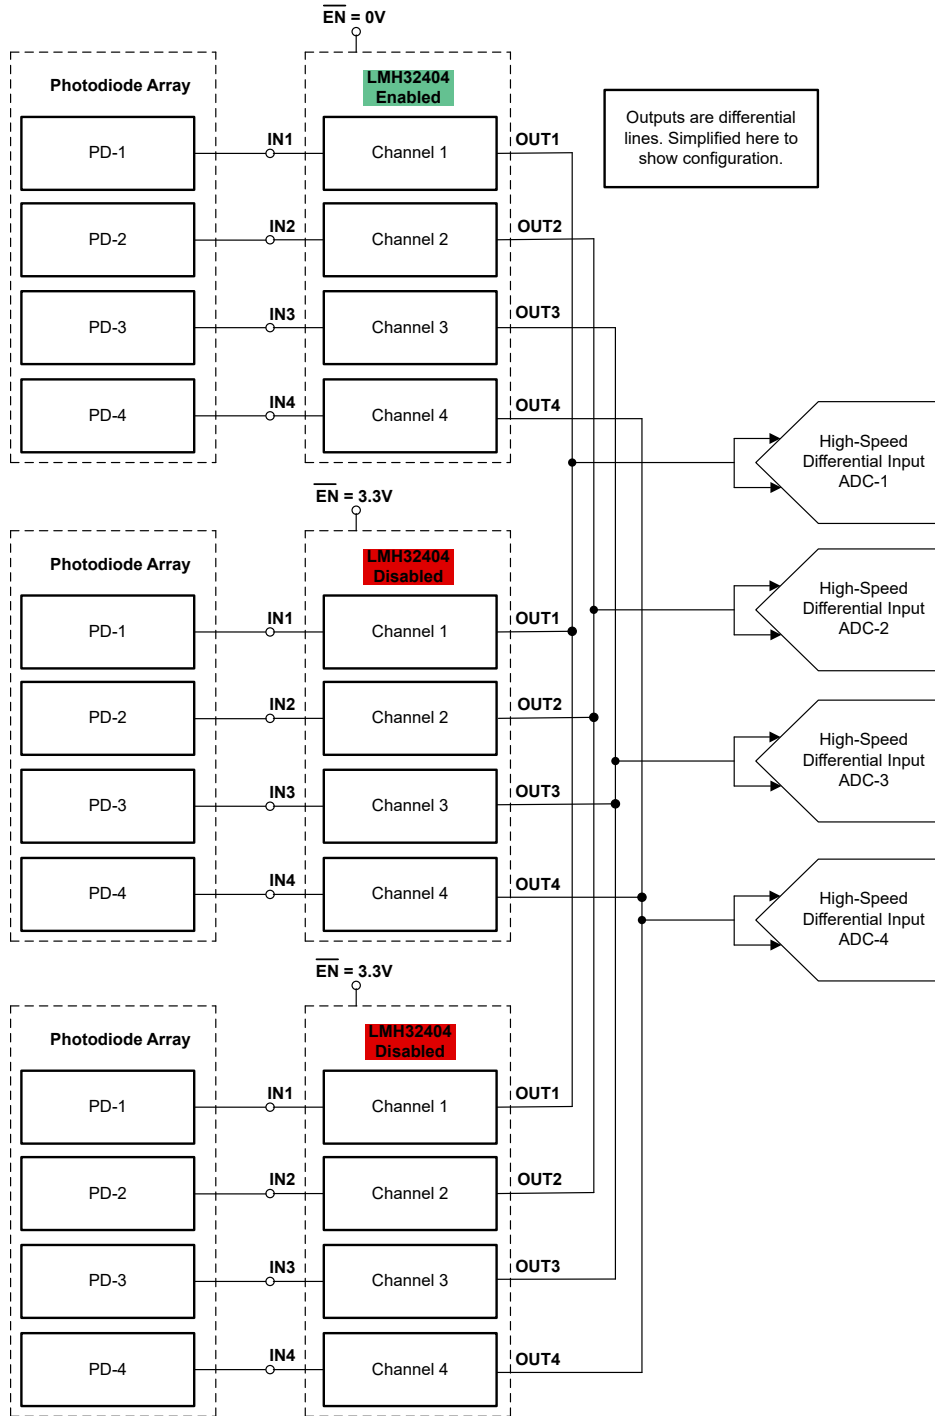

图 7-4. Configuring Three LMH32404-Q1 Devices to Drive Four ADC Channels
**Figure 7-4** shows how this device feature can further save board space and cost by eliminating the need for discrete high-speed multiplexer in a system that consists of several amplifier channels multiplexed to a single ADC channel. When switching between different channels, the LMH32404-Q1 has a transition time of 10 ns (typical). The disabled channel outputs are high-impedance so multiple amplifier outputs can be directly shorted to each other. If one channel is enabled and other channels are disabled, the disabled channels will not load the enabled channel. This further makes the LMH32404-Q1 easy to use in photodiode array applications.
If a system consists of high number of amplifier channels multiplexed to a few ADC channels. 图 7-4 shows how this device feature can further save board space and cost by eliminating the need for a discrete high-speed multiplexer. The disabled LMH32404-Q1 outputs are high-impedance so multiple LMH32404-Q1 device outputs can be directly shorted to each other. If one LMH32404-Q1 device is enabled and others are disabled, the disabled devices will not load the enabled device. This further makes the LMH32404-Q1 easy to use in photodiode array applications.